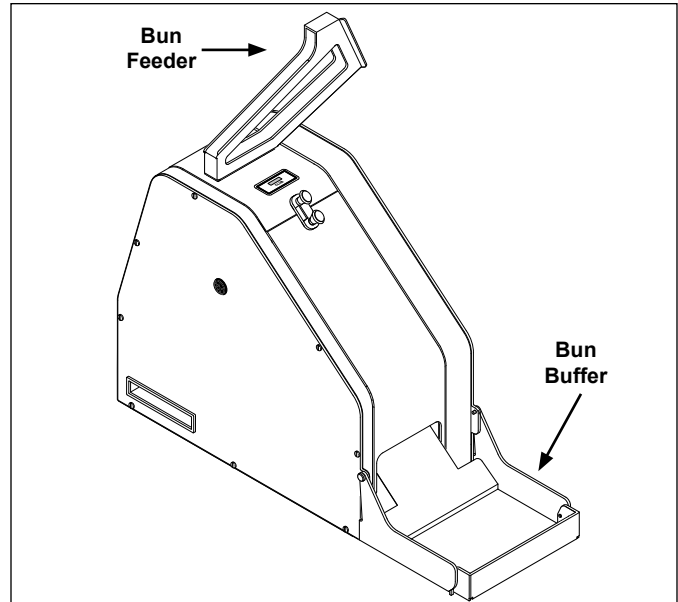

Figure 1. CTX-200L Club Toaster
1. Remove the CTX-200L (Figure 1) and all packing materials from the shipping carton. Then open the accessories box and remove all its contents. It should contain the following:
- 1 Bun Feeder (Figures 1 and 2)
- 1 Bun Buffer (Figures 1 and 2)
Assemble the unit as shown in Figures 1 and 2.